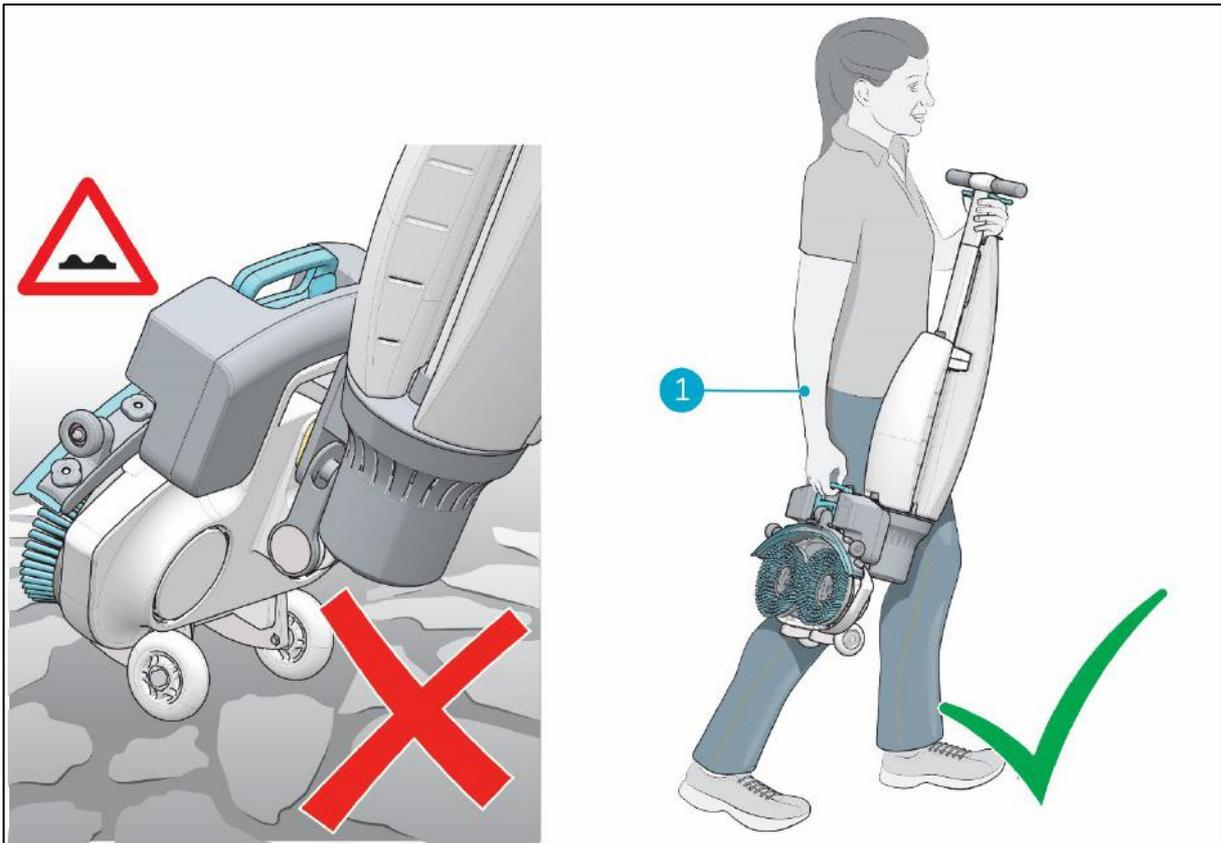

Figure 6
2. Carry the imop Lite with one hand while holding the handle (Figure 6, pos 1) with your other hand.